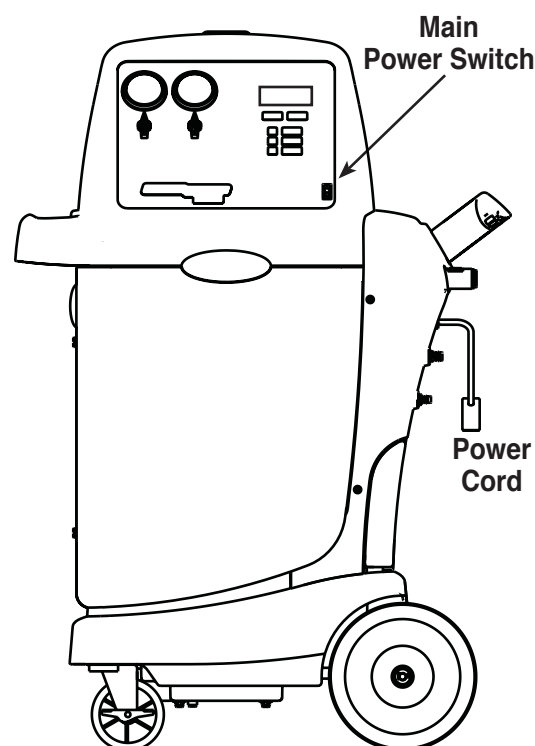

Figure 1
1. Unwind the power cord from the handle, and plug it into a correct voltage outlet. See Figure 1.